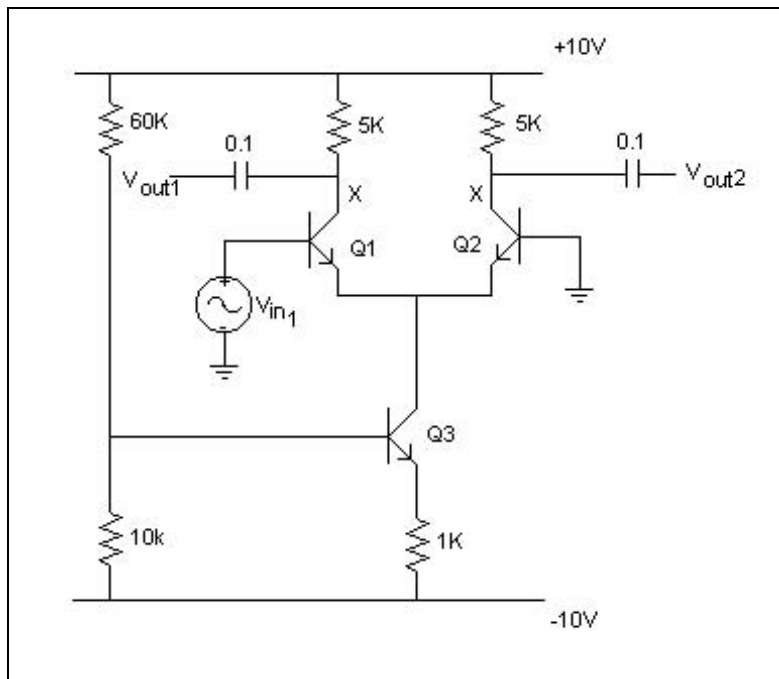

Figure 5.4: Differential Amplifier for Experiment
1. Construct the differential amplifier in Fig. 5.4.
1. For the circuit in Fig.5.4, calculate the DC voltages at the points labeled X, and the small signal voltage gain. Also calculate R_{in} and R_o .